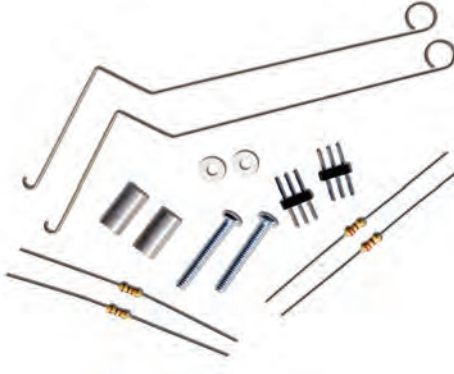

Figure 5-2
- ✓ Gather the whiskers hardware shown in Figure 5-2.